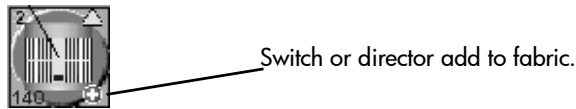

Figure 55: Icon display when switch or director added to fabric
- A plus sign (+) displays in the lower right corner of the product's icon if the switch or director was added. Figure 55 illustrates the icon when a fabric element is added.